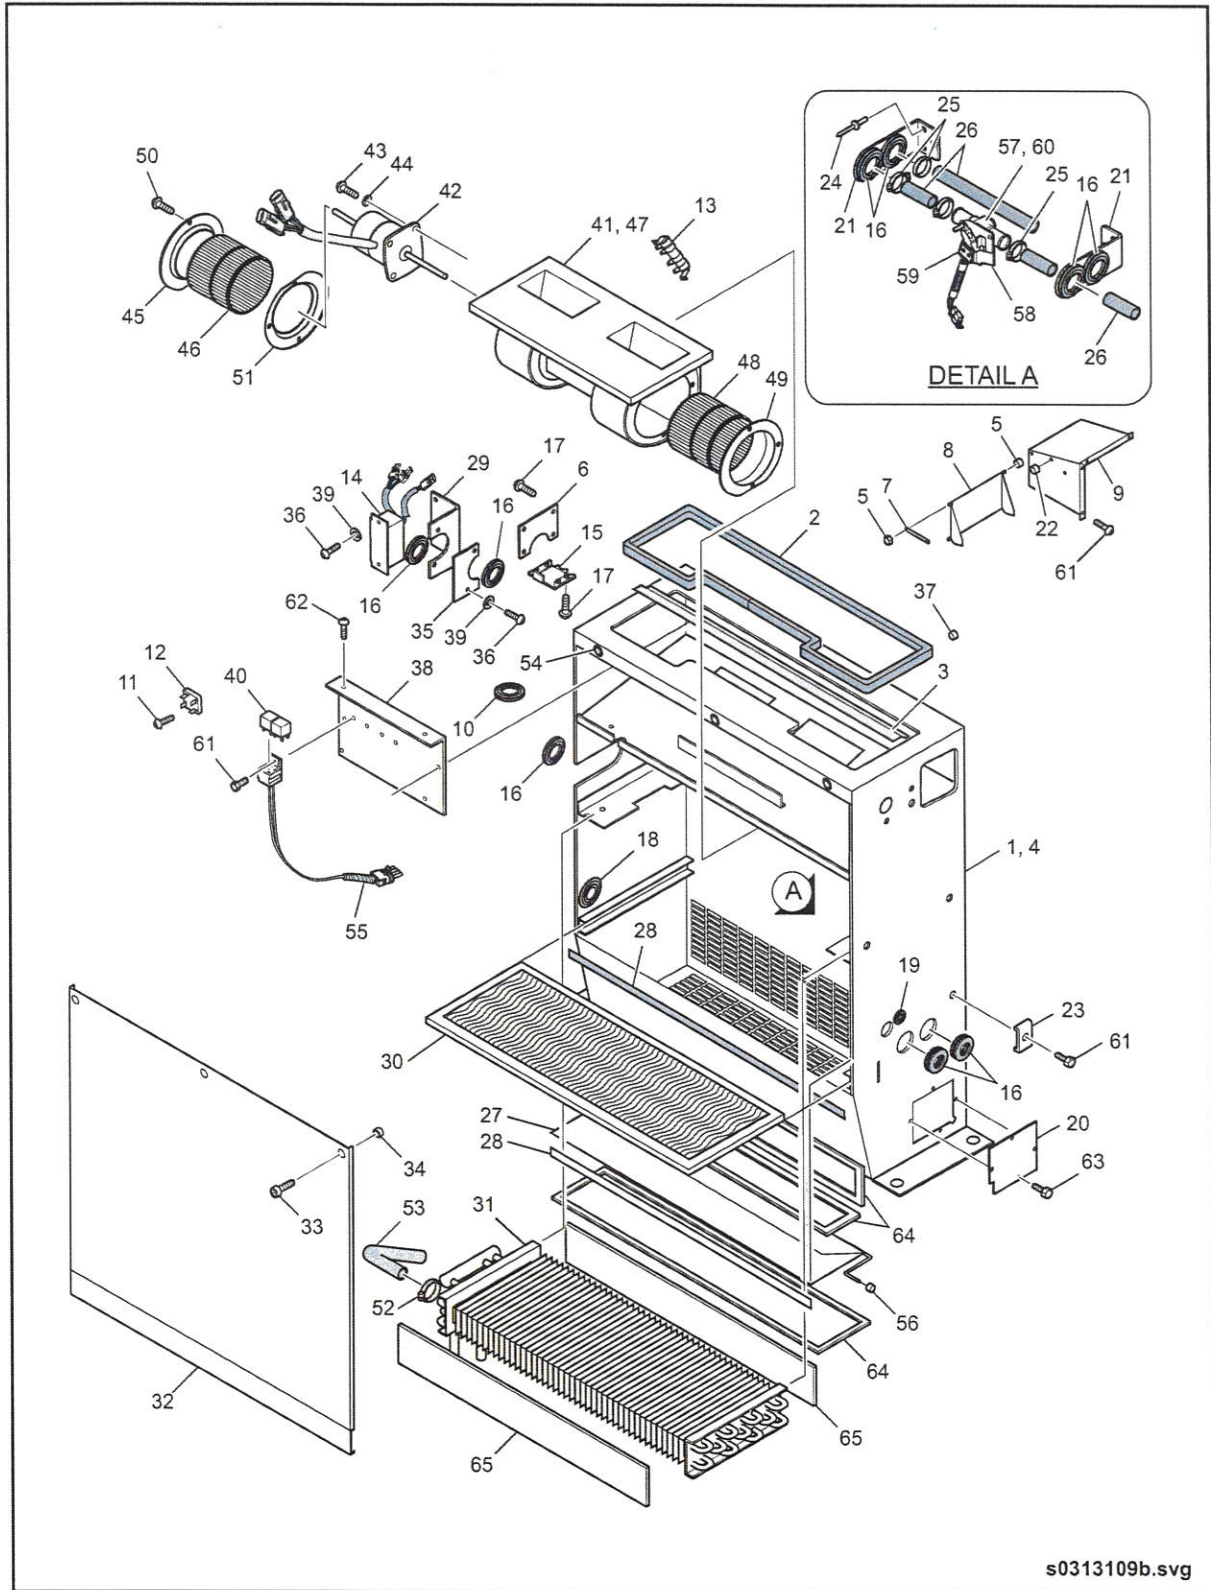

Fig. 10-4: Heater/Defroster Assembly
2. Open front defroster access door and remove defroster access plate. See "Fig. 10-4: Heater/Defroster Assembly" on page 14.